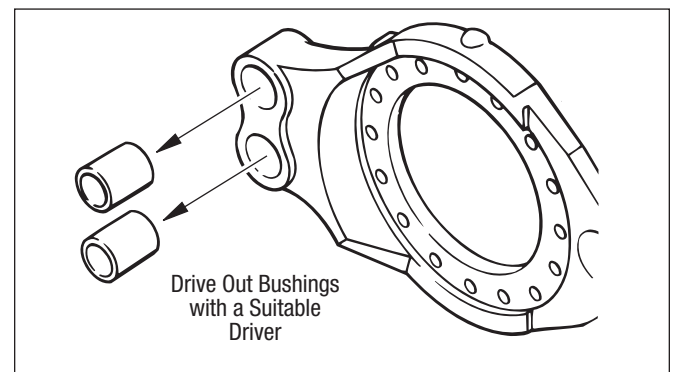

Figure 22 – Anchor Pin Bushing Removal
4. If any noted conditions are found, drive out the old anchor pin bushings from the spider. Refer to Figure 22.